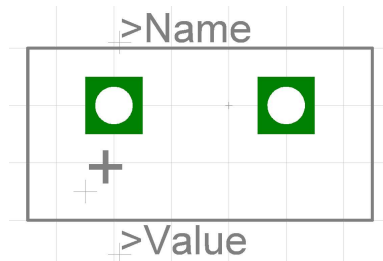

Figure 4.5: Final 2 pin terminal block PCB package.
7. Draw the PCB package as shown in Figure 4.5
- (d) *Draw the PACKAGE* or Footprint on the Top Solder Mask Layer (tPlace). When drawing the Solder mask layer, ensure the component's mechanical clearances are met so that the component does not interfere with other components when mounted to the PCB. These measurements, including pad spacing, are specified by the component's data sheet. When creating this package refer to the 100mil grid settings shown in Figure 4.5.